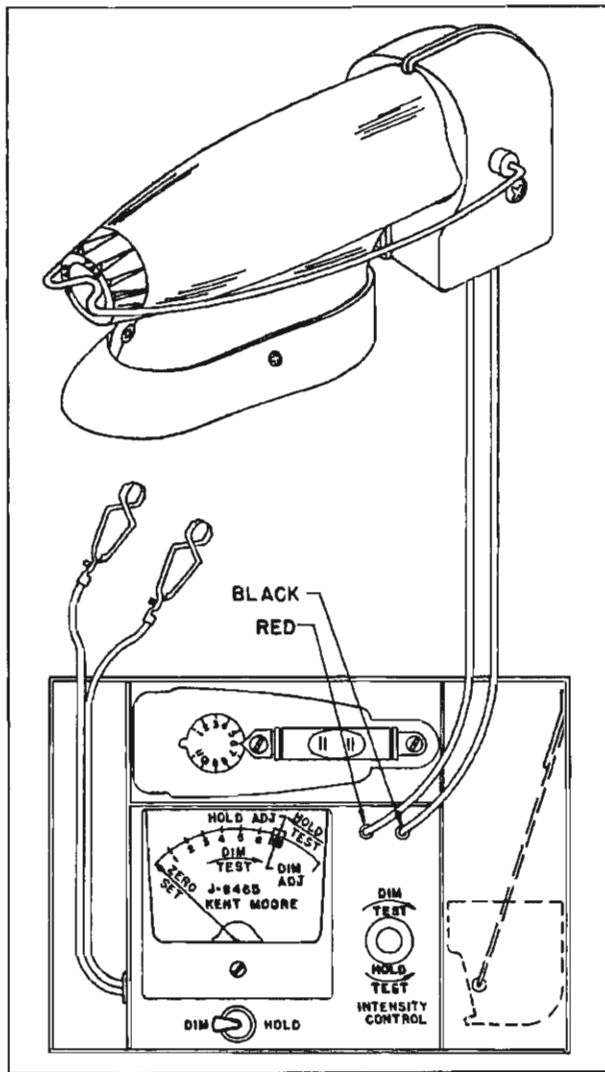

Fig. 12-19 Dim and Hold Test Equipment Installed
2. Install tester J-8465. (Fig. 12-19).
5. Turn zero corrector on face of meter until meter pointer is on zero set line. (Fig. 12-19).